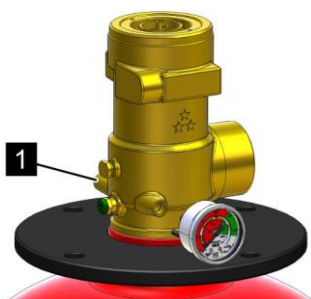

Fig. 182: Pressure gauge connection
2. ► Remove the blind plug on the unused pressure gauge connection (Fig. 182/1) of the valve.